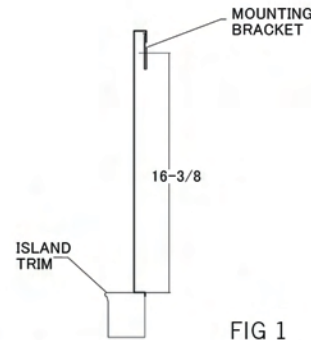

FIG 1
1. First measure from top of island trim to 16 3/8" to what will be the center of the mounting brackets. (see Fig 1)